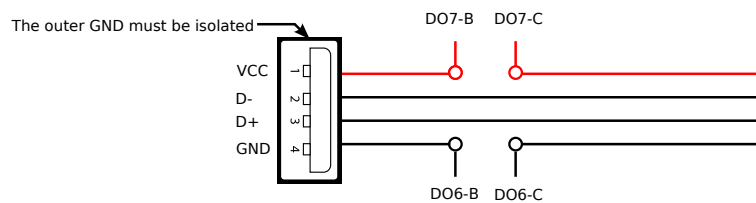

Figure 36: Modified USB cable
- modified USB cable for USB-CAN (see Figure 36) so that GND and VCC wires will be switched through relays and the outer GND is also isolated